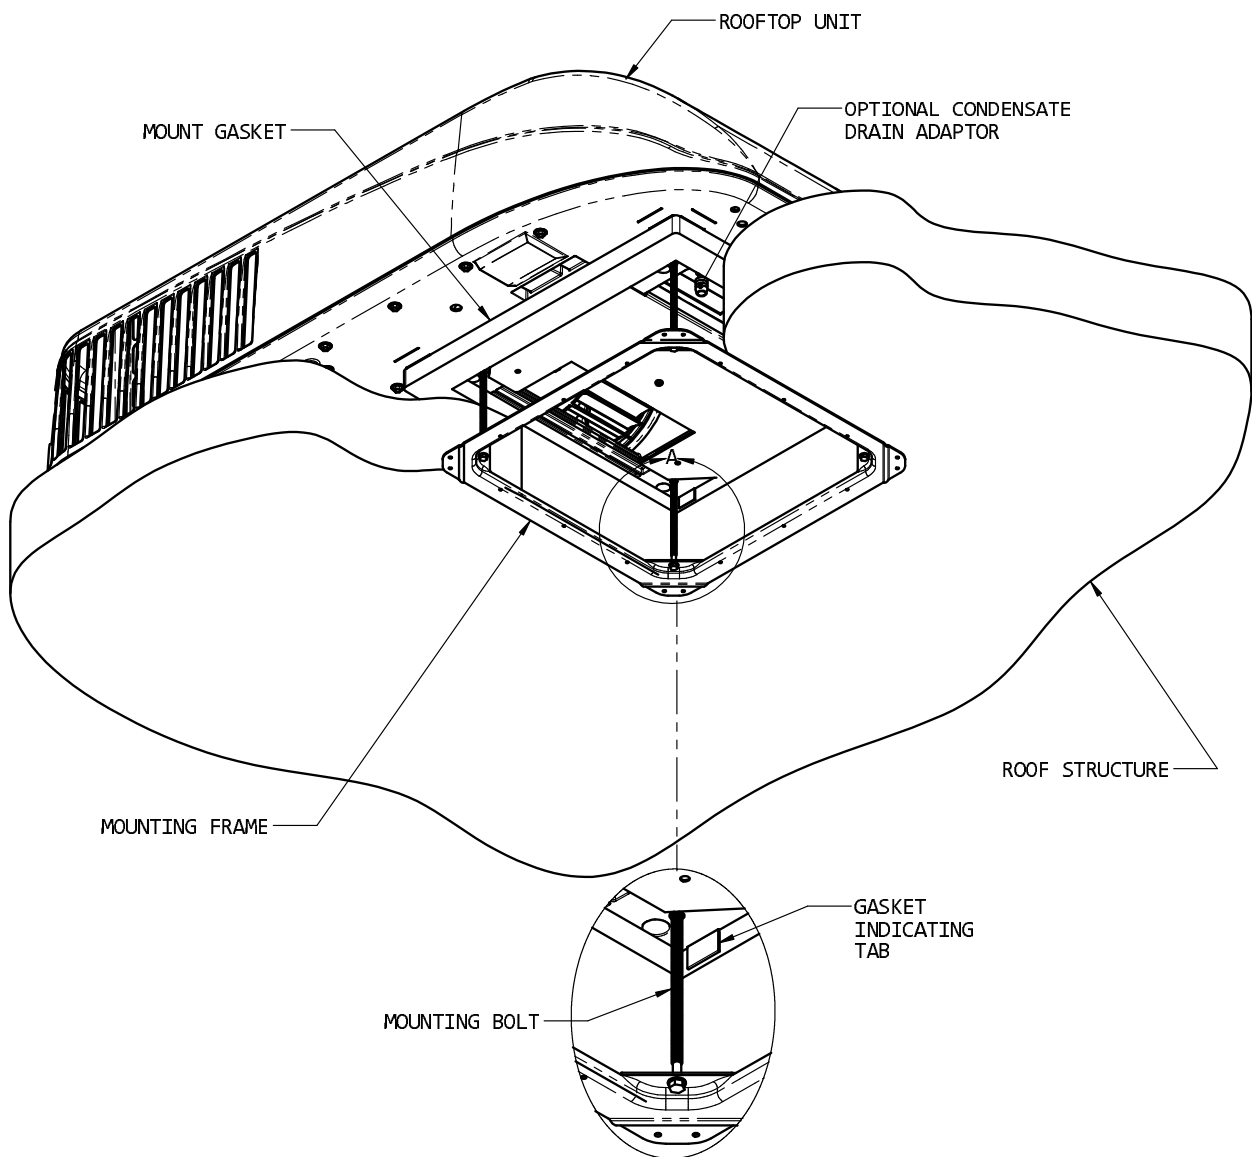

FIGURE 4
A mounting frame is supplied with the ceiling assembly. Follow the steps below to secure the air conditioner to the roof. Refer to Figure 4.
C. Proper tension has been achieved for each bolt when any portion of each gasket indicating tab has been pulled down even with the roof. See Figure 4. The upper unit has now been properly installed with optimum gasket compression.
D. If the air conditioner is equipped with an optional evaporator condensate pump, a 1/2" I.D. hose must be provided that runs from the 14" square opening, through the vehicle ceiling and down the side wall to allow water to drain under the vehicle. The hose must not be allowed to kink shut while making a bend. Connect the top end of the drain hose to the barbed fitting shown in Figure 4.